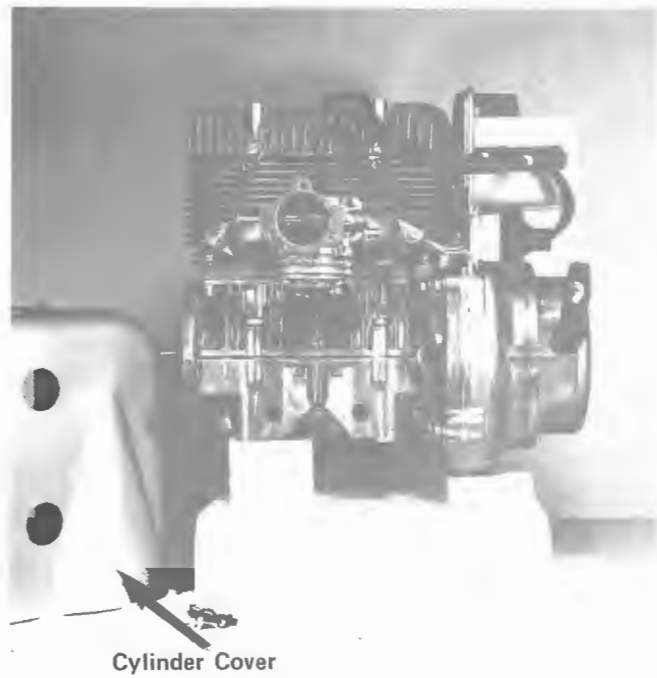

Fig. 3-1 Cylinder Cover Removed
- b. Remove the ten bolts securing cylinder cover to engine body. Remove cover. See Figure 3-1